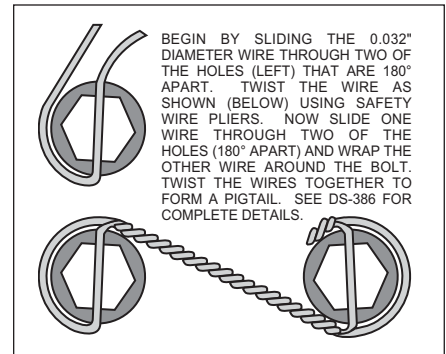

Figure 3. Safety Wire Diagram
- With the larger I.D. side of the rotor (3) facing away from the hat (4), bolt rotor (3) to hat (4) through the backside of the rotor using washers (5) and bolts (6). Torque bolts (6) to 85 in-lb. Safety wire bolts (6) using standard 0.032 inch diameter stainless steel safety wire as shown in Figure 3. Please refer to Wilwood's data sheet DS-386 (available at www.wilwood.com/Pdf/DataSheets/ds386.pdf) for complete safety wire installation instructions. Slide the rotor/hat assembly onto the spindle. Install a couple of lug nuts (hand tighten) to keep the rotor/hat assembly in place while continuing with the installation.